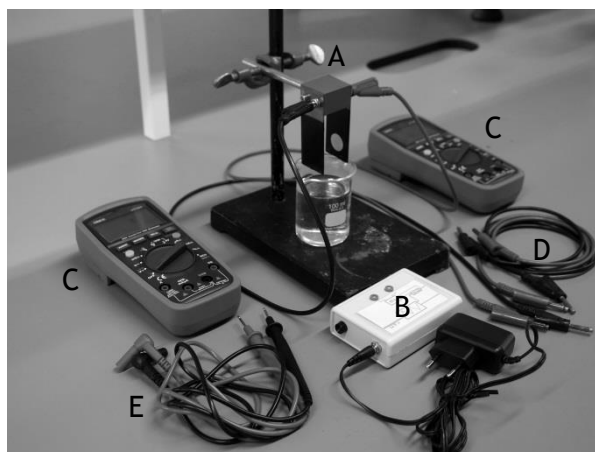
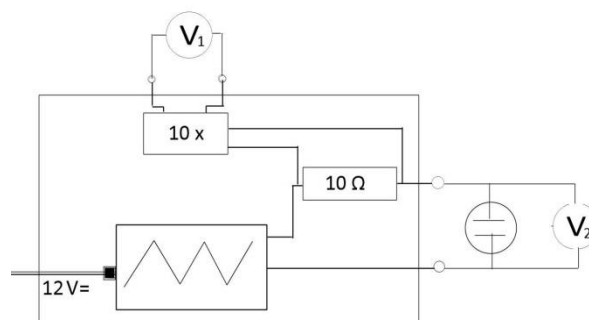

Figure 3 - Materials for the setup of the experiment
Figure 4 - Schematic of the power supply box. The symbol  is used for the electrodes.
- A set of two gold-plated electrodes (part A in Figure 3)
- AC power supply box (B) (without cable)
- Two digital multimeters (C)
- Four electricity wires (red, black, 2x blue) (D) and two wires of a multimeter (red, black) (E)
In this experiment the electrical conductance of the salt solutions will be determined with the materials depicted in Figure 3. A set of gold plated electrodes is submerged in a beaker containing the salt solution. The electrodes must be connected to a power supply, which delivers an alternating voltage with a high frequency (1 kHz) and a low voltage. This is needed to prevent electrolysis of the salt solution. From the measurement of voltage across and current through the electrodes the electrical conductance can be determined. In Figure 4 a schematic of the power supply is shown, with the AC voltage supply depicted as the box with the triangle shaped symbol. During the experiment we will connect the ports on the right side with the electrodes for the conductance measurements. In order to measure the current, the box contains a resistor $R_1 = 10 \Omega$ and an amplifier to amplify the voltage across the resistor 10 times. The output is measured between the two upper ports.
3. Build the electrical circuit using the schematic from Figure 4. Make sure the multimeters are in the mV \approx , AC setting (using the blue button so that 'AC' appears in the display) for alternating current, and connected to the appropriate sockets.